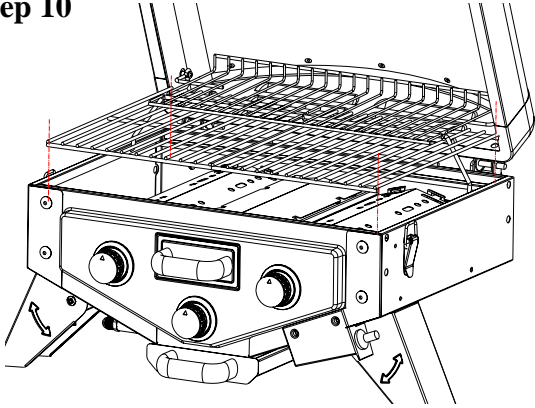

Fig. 10
*Locate:* (2) Cooking Grids
*Procedure:* Place (2) Cooking Grids into the Fire-box as shown in Fig. 10.